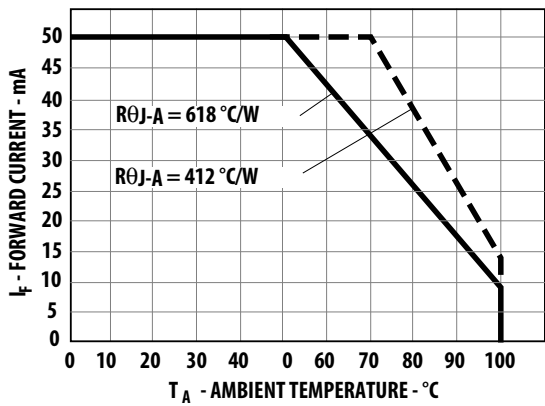

Figure 4. Maximum Forward Current vs. Ambient Temperature. Derating Based on $T_{JMAX} = 110\text{ }^{\circ}\text{C}$.
- Derate linearly as shown in Figure 4.